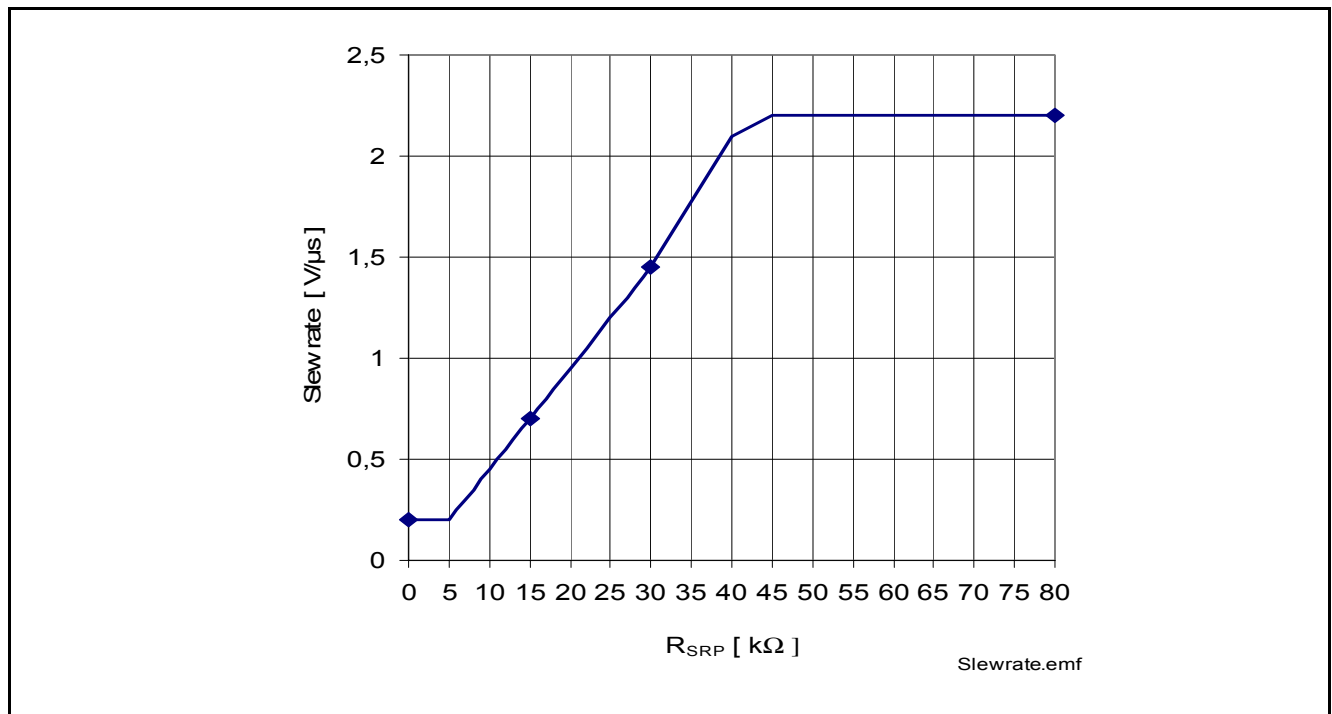

Figure 15 Typical relation between slew rate and resistor values used on  $R_{SRP}$  ( $V_{bat} = 13.5\text{V}$ )
**Figure 15** shows the relation between the resistor value and the slew rate of BTS 3256D.